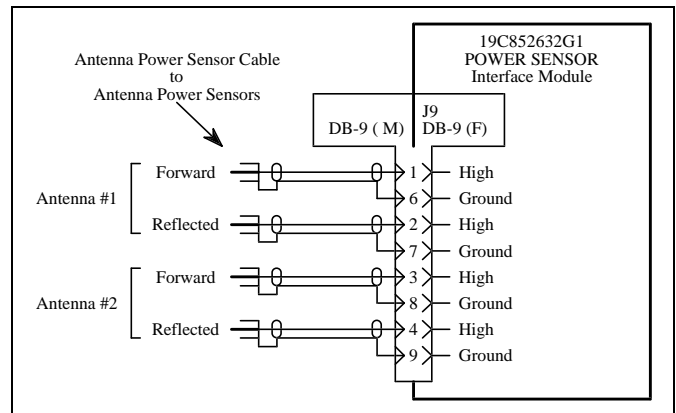

Figure 9 - Antenna Power Sensor Connections
16. Install the 19C852677P1 antenna power sensor cable from J9 on the Power Sensor interface module in the Site Controller cabinet, to the antenna power sensor(s) in the RF equipment cabinet(s) as shown in Figure 9. If the system has only one antenna, tack solder a jumper (tip to shield) on each of the unused phono plugs to short the forward and reflected power sensor circuits for antenna #2.